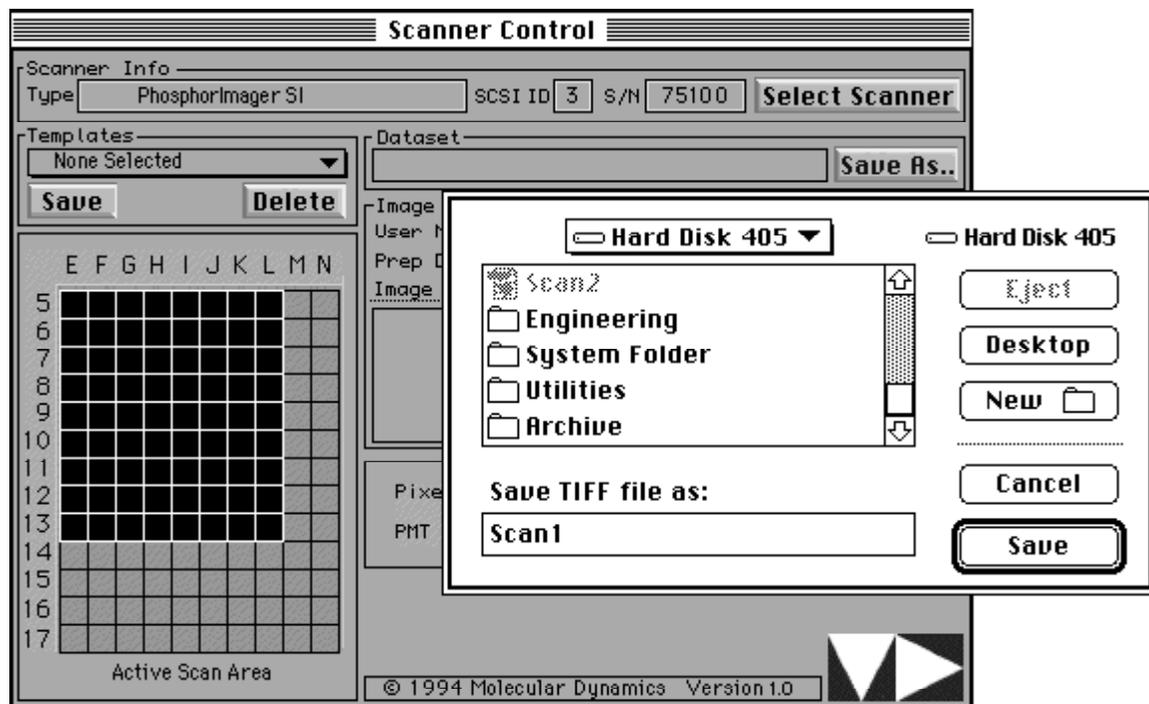

Figure 5-3. The Scanner Control window with a Scan area drawn and the Save As window displayed.
3. Release the mouse button. The Save As window appears (figure 5-3).